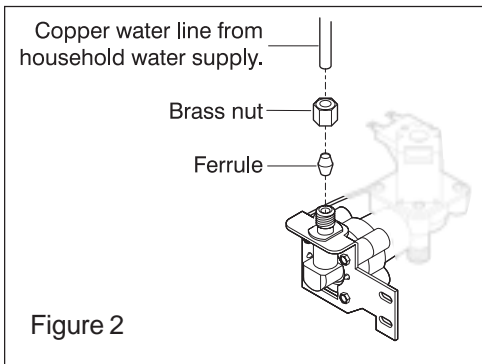

Figure 2
3. Install WATER SUPPLY LINE as follows (figure 2):